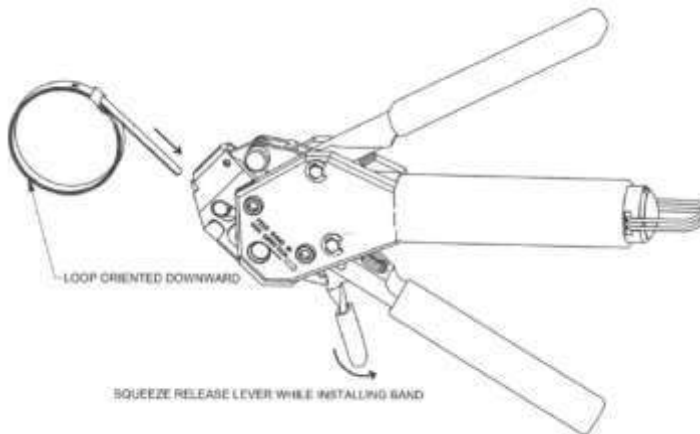

Figure 28
- b. Squeeze the release lever and insert the end of the band into the nose of the tool (Figure 28). Ensure the orientation of the band matches the graphic on the body of the tool.